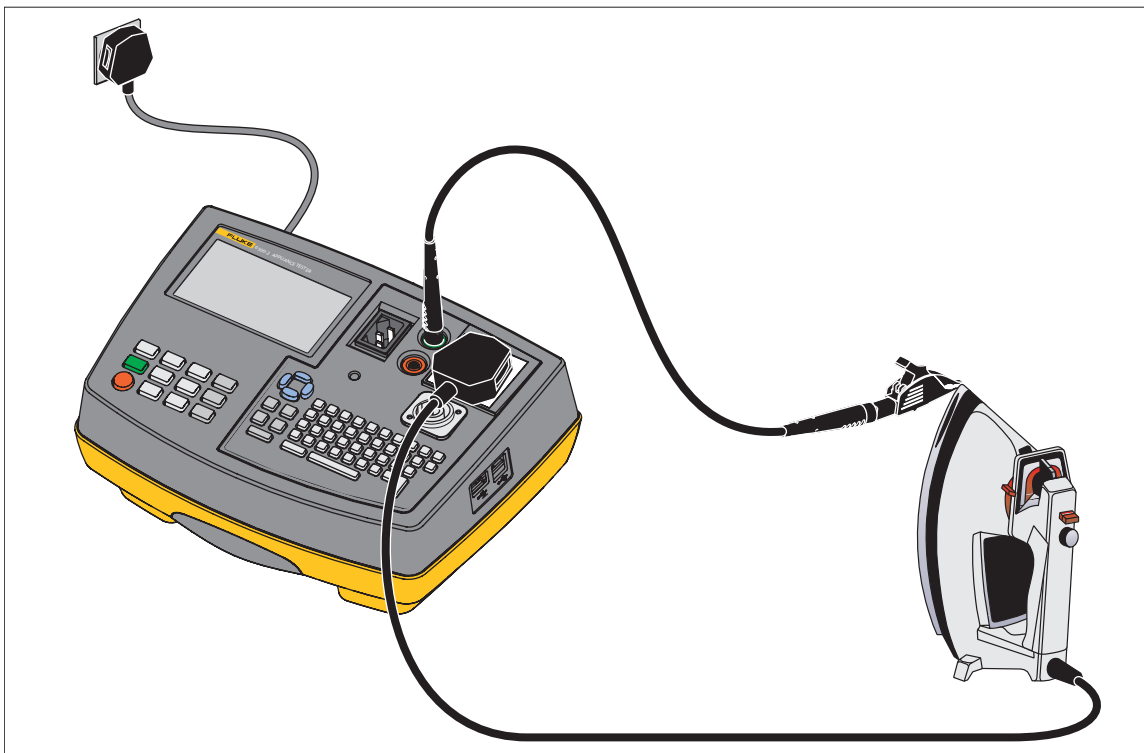

Figure 2. Bond Test Connections
- Connect the appliance and the earth bond test lead as indicated on the display. Clip the alligator (crocodile) clip to an exposed conductive part on the appliance that requires a test, see Figure 2.